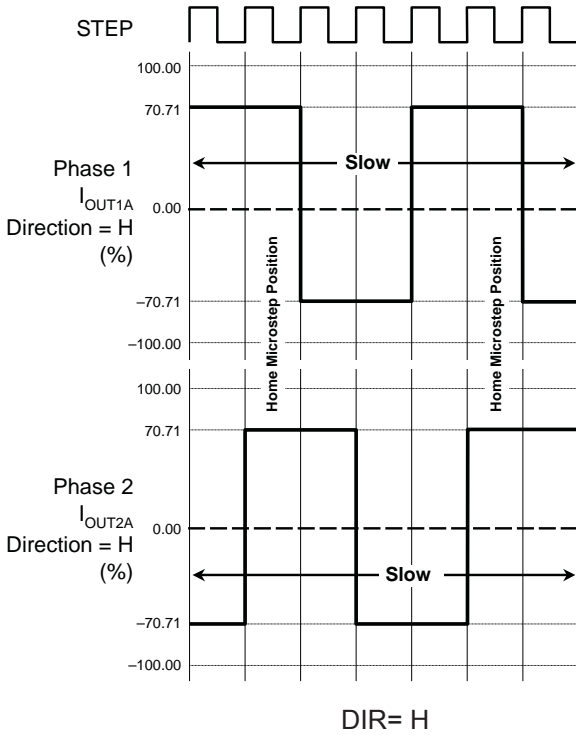

Figure 8. Decay Mode for Full-Step Increments
At power-on or reset, the translator sets the DACs and the phase current polarity to the initial Home state (shown in figures 8 through 12), and the current regulator to Mixed Decay Mode for both phases. When a step command signal occurs on the STEP input, the translator automatically sequences the DACs to the next level and current polarity. (See table 2 for the current-level sequence.) The microstep resolution is set by the combined effect of the MSx inputs, as shown in table 1.
**Mixed Decay Operation.** The bridge operates in Mixed decay mode, at power-on and reset, and during normal running according to the ROSC configuration and the step sequence, as shown in figures 8 through 12. During Mixed decay, when the trip point is reached, the A4988 initially goes into a fast decay mode for 31.25% of the off-time,  $t_{OFF}$ . After that, it switches to Slow decay mode for the remainder of  $t_{OFF}$ . A timing diagram for this feature appears on the next page.
**Reset Input (RESET).** The  $\overline{RESET}$  input sets the translator to a predefined Home state (shown in figures 8 through 12), and turns off all of the FET outputs. All STEP inputs are ignored until the  $\overline{RESET}$  input is set to high.
**Mixed Decay Operation.** The bridge operates in Mixed Decay mode, depending on the step sequence, as shown in figures 8 through 12. As the trip point is reached, the A4988 initially goes into a fast decay mode for 31.25% of the off-time,  $t_{OFF}$ . After that, it switches to Slow Decay mode for the remainder of  $t_{OFF}$ . A timing diagram for this feature appears in figure 7.